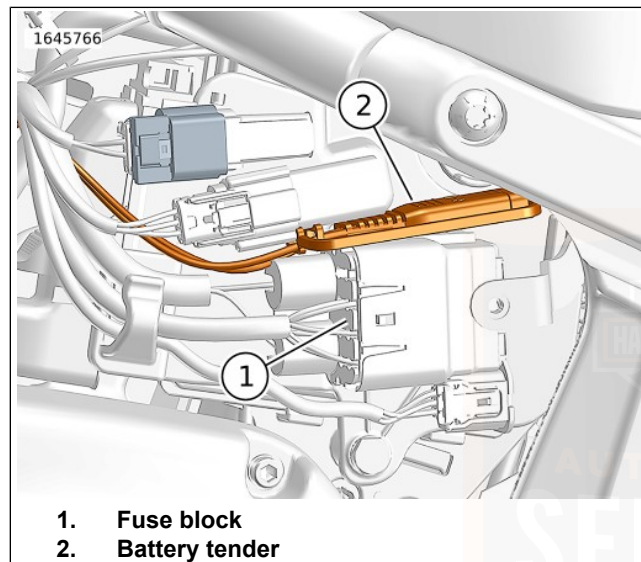
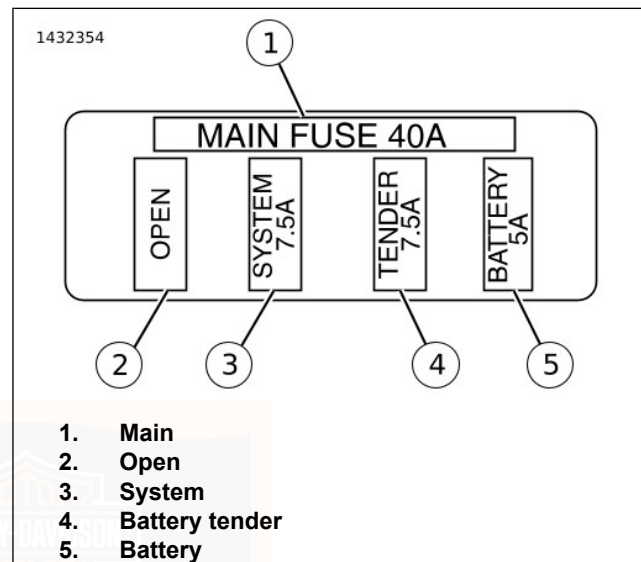

Figure 90. Fuses
Figure 91. Fuse Block
3. See Figure 90 and Figure 91. Remove fuse block from caddy on motorcycle.